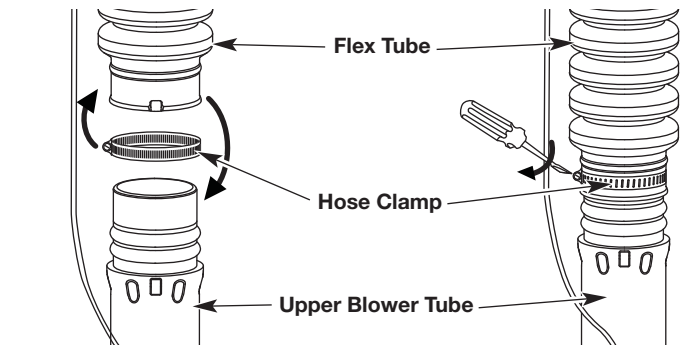

Fig. 2
1. Place a hose clamp around the other end of the flex tube (Fig. 2).
2. Slide the flex tube and hose clamp onto the upper end of the upper blower tube (Fig. 2).
3. Tighten the screw on the hose clamp with a flat-head screwdriver (Fig. 2).